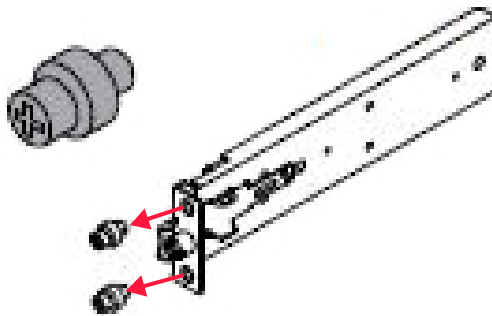

Figure 4.9 Removing the 9.5-inch screws
1. Remove the eight preinstalled 9.5mm screws (used for racks with square post holes): two on each of the brackets on the front and rear outer cabinet member rail as demonstrated in Figure 4.9.